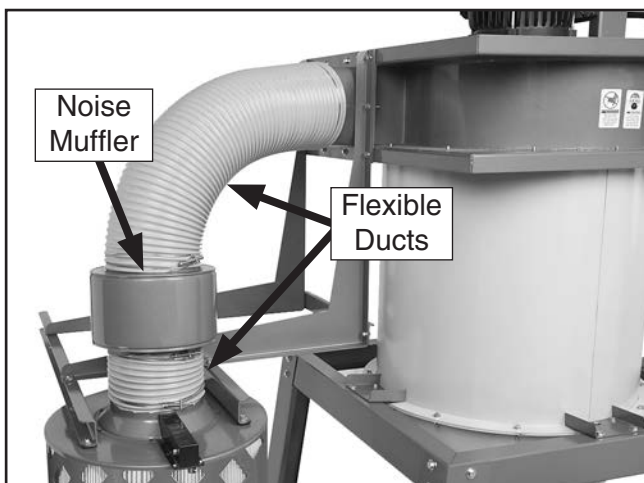

Figure 28. Ducting and noise muffler connected between blower housing and filter canister.
32. Apply (6) 3 x 15 x 700mm gaskets to upper rim of canister filter assemblies and both rims of noise mufflers.
33. Apply (2) 3 x 15 x 700mm gasket to outer circular rims of each outlet port.
34. Assemble 8" x 31 $\frac{1}{2}$ " flexible ducts, noise mufflers, and 8" x 4 $\frac{3}{4}$ " flexible ducts with 8" duct clamps (see **Figure 28**).